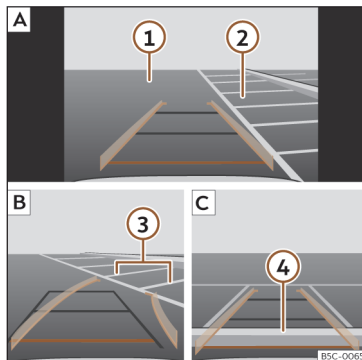

Fig. 166 Display on the infotainment system screen: parking with the reverse assistant.
Key to >>> **Fig. 166:**
- Stop the vehicle in front of the parking space >>> **Fig. 166** **2** **A**.